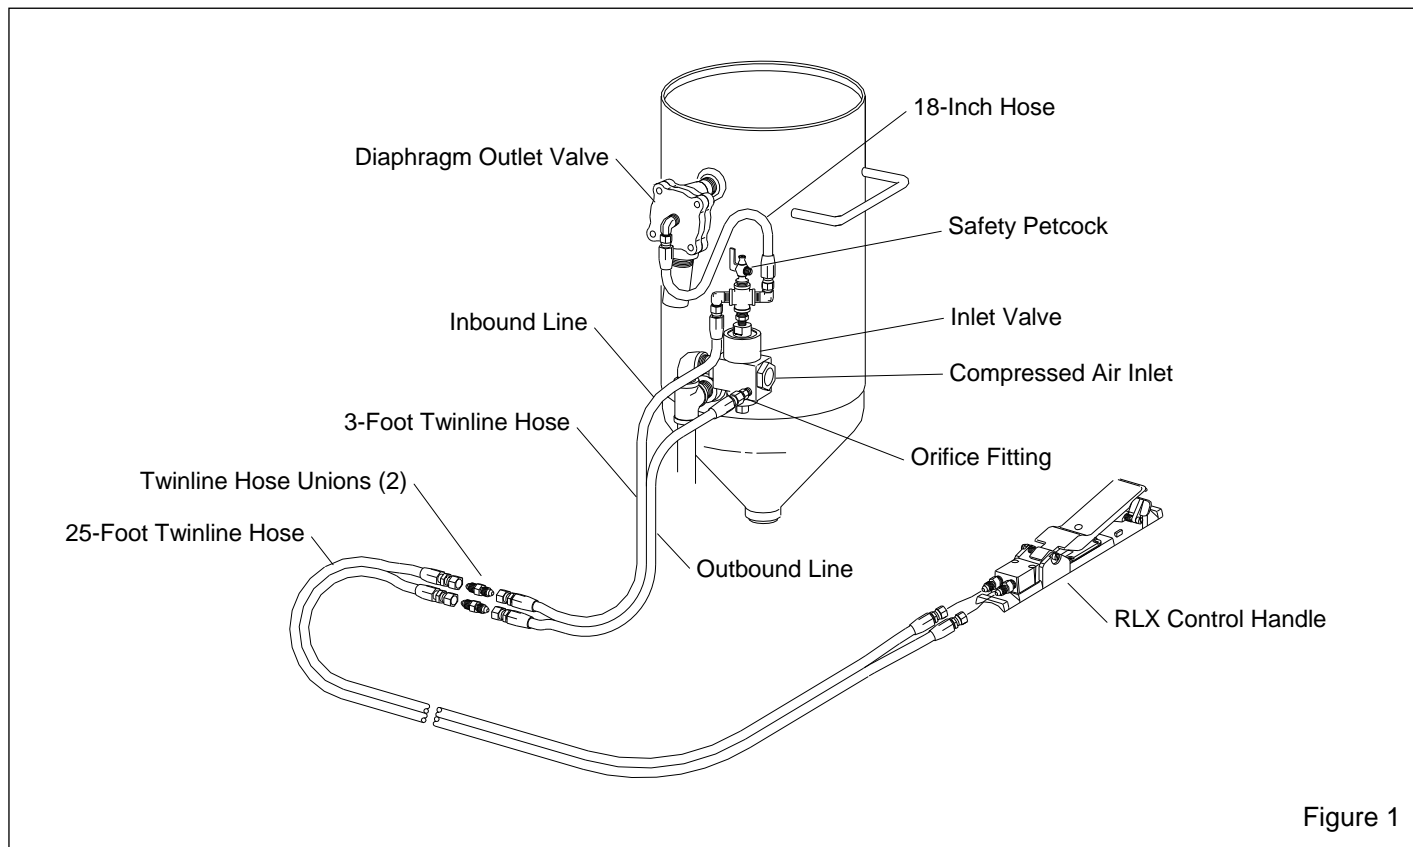

Figure 1
1.3.3 The components of the remote control system are shown in Figure 1. They include the inlet valve, diaphragm outlet valve, RLX control handle, 25-ft. and 3-ft. long twinline control hoses, 2 control hose unions, and an 18-in. long interconnecting hose.
1.4.1 Clemco TLR Remote Controls operate pneumatically on return air (Refer to Figure 1). If the control handle lever (the main activator of the system) is in the up (no blast) position, one stream of air travels down the outbound side of the twinline and escapes through an opening located under the lever. The normally-closed inlet valve remains closed and the normally-open outlet valve remains open. When the control handle lever is pressed, a rubber button seals the opening, and air in the outbound line returns through the inbound line to open the inlet valve and close the outlet valve. This action pressurizes the blast machine and begins the blasting process. Releasing the handle exhausts the control air, closing the inlet valve, and opening the outlet valve to depressurize the blast machine and stop the blasting.
2.2 Field-Installed Controls: Refer to Figure 1.
2.3.1 Connect a compressed air hose coupling to the inlet valve (or optional air filter) that is compatible with the air supply hose. Refer to Figure 1.
2.4.7 Attach the 3-ft. twinline control hose to the inlet valve as shown in Figure 1; One side of the hose connects to the unused upper elbow, the other to the orifice fitting.